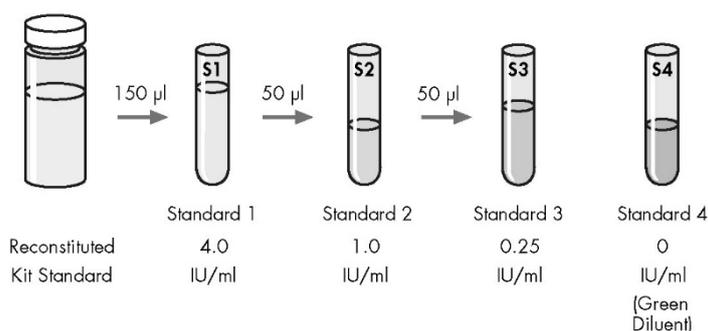

Figure 2. Preparation of standard curve.
Use the reconstituted kit standard to produce a 1 in 2 dilution followed by a 1 in 4 dilution series of IFN- γ in Green Diluent (GD) (see Figure 2). S1 (Standard 1) contains 4.0 IU/ml, S2 (Standard 2) contains 1.0 IU/ml, S3 (Standard 3) contains 0.25 IU/ml, and S4 (Standard 4) contains 0 IU/ml (GD alone). The standards should be assayed in duplicate. Prepare fresh dilutions of the kit standard for each ELISA session.